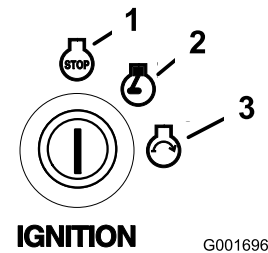

Figure 17
6. Turn the ignition key to Start (Figure 17). When the engines starts, release the key.
4. Turn the ignition key to the off position and remove the key (Figure 17).